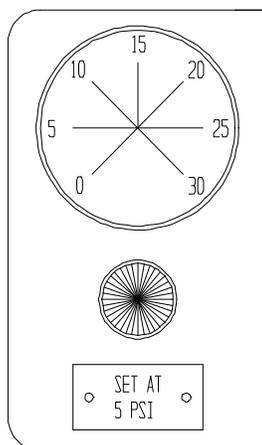

Figure 3-5 Solvent Tank Pressure Gauge / Adjustment
5. Adjust the solvent tank pressure gauge until the tanks are pressurized to 5 PSI (Figure 3-5).